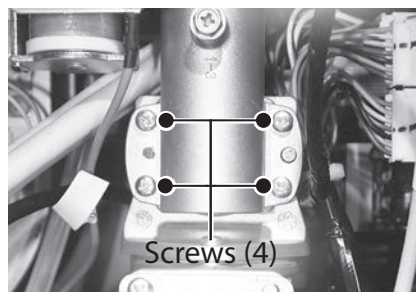

Figure 150 - Remove screws securing gas valve
- 42** Locate and remove the four screws securing the gas valve to the gas manifold. Place screws aside in a safe place for reinstallation. See Figure 150.
**77** Locate the four gas valve screws previously removed in **Step 42**. Secure gas valve to the gas manifold and heat exchanger assembly. See Figure 150.